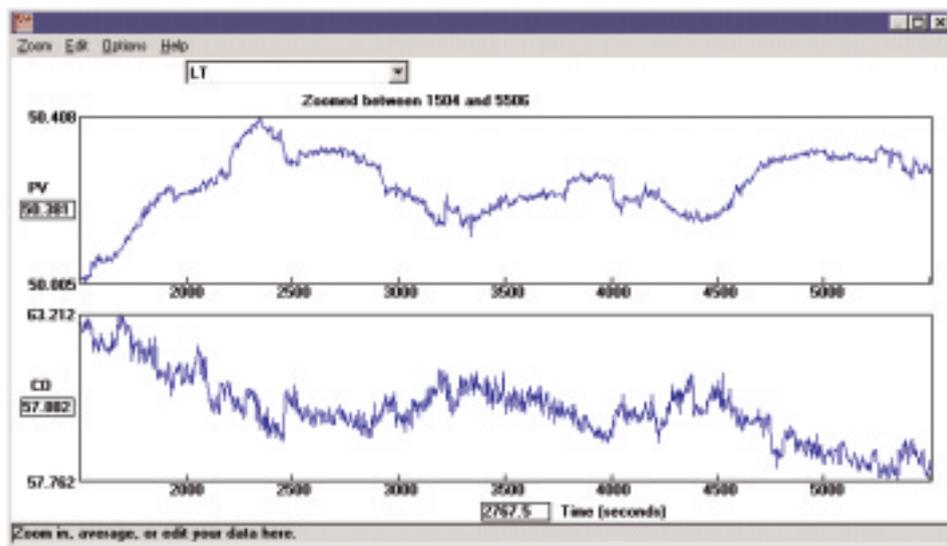

Figure 2. The closed-loop time response for the machine chest level control
Data was collected from the process at a point before the paper machine using a data acquisition package and trending software. This data, displayed below in Figure 2, was taken from the machine chest. The process variable (PV) measured is the pulp level in the machine chest. The graphic for the PV closed-loop time response is the top graph and the bottom graph is the controller output (CO). The CO is the set point for the three pulp flow loops.